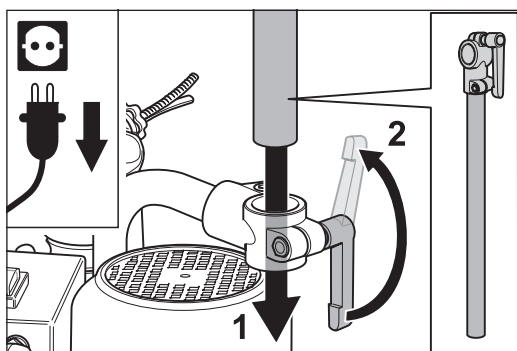

Fig. 11 Inserting the extension into the clamping piece **of the pipe bend** (1) and tightening the clamping lever (2)..
- 1 Insert the extension into the clamping piece **of the pipe bend** (fig. 11, 1) and tighten the clamping lever firmly (fig. 11, 2).